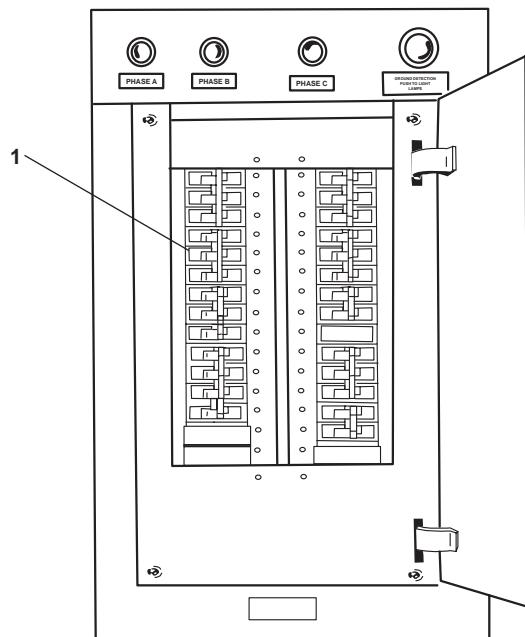

Figure 3. 120V Emergency Load Center Distribution Panel
1. In the Emergency Diesel Generator (EDG) room, at the 120V emergency load center distribution panel, verify that the PILOTHOUSE EMERGENCY DISTRIBUTION PANEL. circuit breaker (figure 3, item 1) is set to ON.